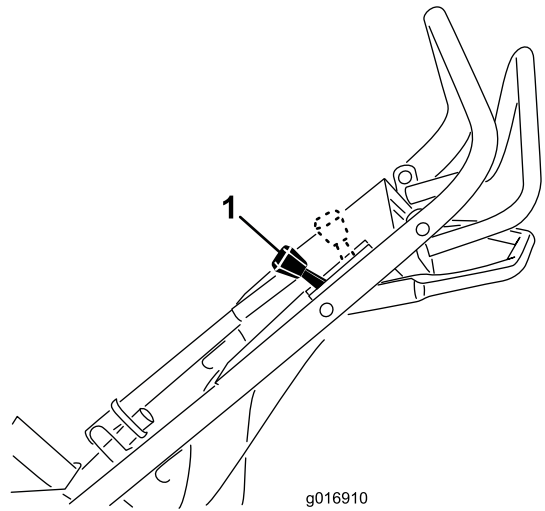

Figure 13
3. Move the throttle control all the way forward to the Choke position (Figure 13).